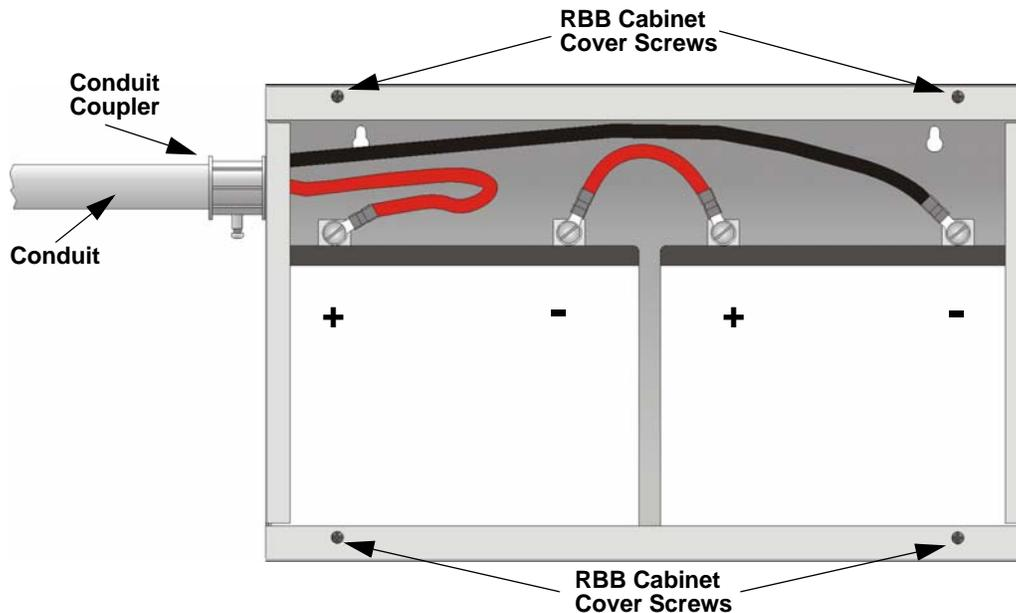

Figure 4-5 Battery Connections in the RBB Cabinet
See Figure 4-5.
Note: Figure 4-5 is an example of how the wire connections can be routed. However, any other cabinet knock-outs (on either the main control panel or the RBB cabinet), that are not previously being used may be utilized to connect conduit between the two cabinets.
- Connect battery leads to the backup battery terminals. See Figure 4-5.
- Insert the RBB cover screws into the cover mounting holes (see Figure 4-5).